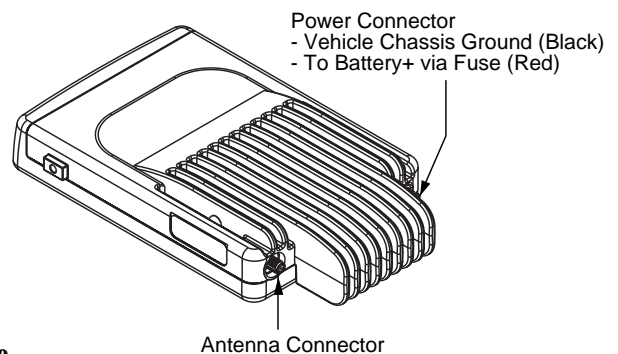

Figure 16 Connections to Radio Rear
6. To complete the installation, plug power cable into radio's power connector (See Figure 16).
8. Connect the antenna's cable connector to the radio's antenna connector on the rear of the radio (See Figure 16). Ensure that the antenna's cable connector is fully tightened.